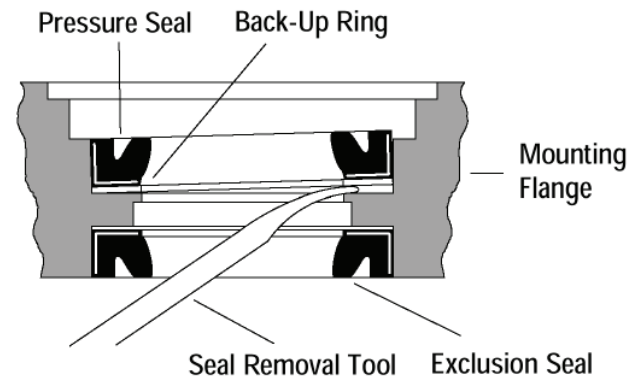

Figure 4
7. Carefully remove the exclusion seal and pressure seal from the mounting flange. A seal removal tool may be fabricated by bending and rounding the end of a small blade screwdriver, see Figure 4.